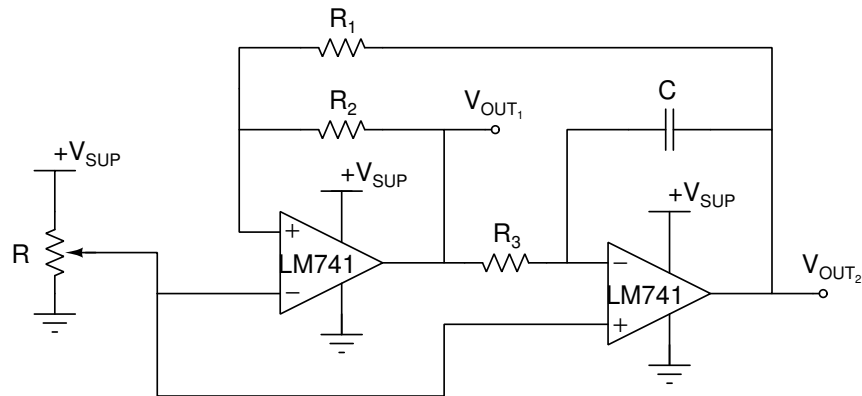

Figure 3: Oscillator circuit using a Schmitt trigger and an inverting integrator.
**Introduction:** Two LM741 Operational Amplifiers (OpAmps) are used to produce an oscillator. A system level block diagram is shown in **Figure 1**. The oscillator is formed by connecting the output of a Schmitt trigger **Figure 2** to the input of an inverting integrator, and connecting the output of the inverting integrator back to the input of the Schmitt trigger. The entire oscillator circuit is shown in **Figure 3**. The only input to the circuit is a DC voltage  $+V_{SUP}$ . The circuit produces both a square wave and a triangular wave output signal. You are to design an oscillator which meets the following specification:
6. Describe how the circuit shown in **Figure 3** functions. Sketch the shape of the expected output signals  $V_{OUT_1}$  and  $V_{OUT_2}$  as a function of time. Assume the variable resistor is set to the mid-point resistance.
9. Perform a transient simulation of the circuit of **Figure 3** with the LM741 OpAmp. What is the simulated value of the oscillation frequency? What is the duty cycle? You will need to generate your own MATLAB® file and hspc file, but can use the MATLAB® and hspc files from previous labs as templates.